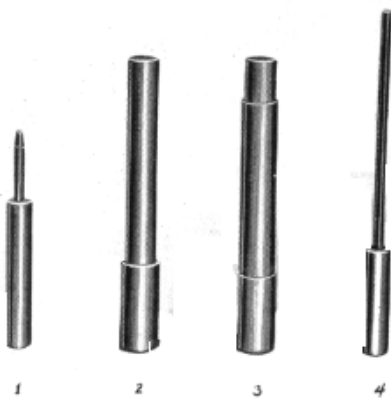
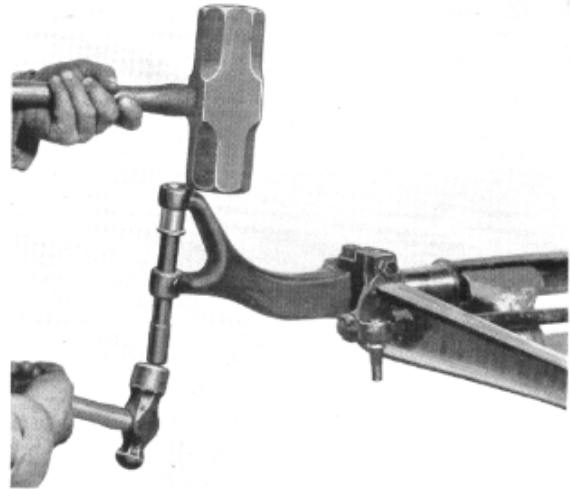
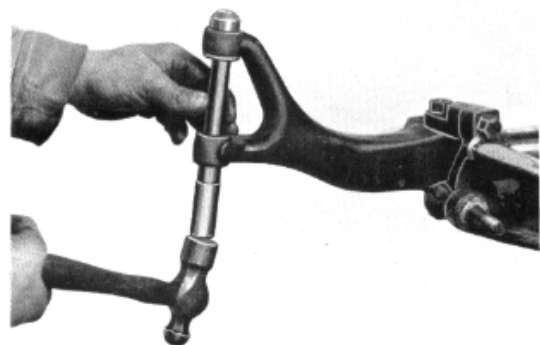

Figure 3
Figure 4
Figure 5
This can be done by proceeding as follows either with the axle removed from the car or after operation 1 to 5 inclusive under removal of front axle. The special tools required are shown in Figure 3.
14. Insert driver J-479-1 (1-Figure 3) through hole in upper bushing and drive spindle pin down, forcing out
expansion plug at bottom of spindle, then insert driver J-479-2 (4-Figure 3) and drive pivot pin out.
16. Insert driver J-469-2 (3-Figure 3) into lower bushing and drive it out.
17. Install: new upper bushing, using driver J-469-2 (3-Figure 3), as shown in Figure 4. The top of the axle
18. Install new lower bushing, using driver J-469-1 (2 - Figure 3), as shown in Figure 5.